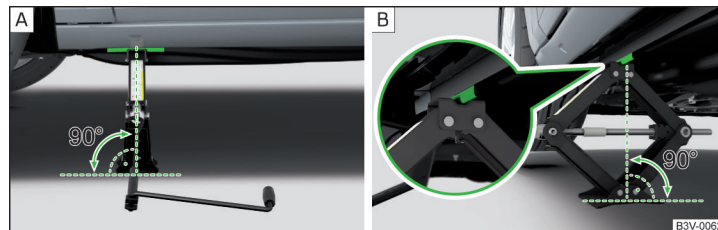

Fig. 334 Attach lifting jack
- › Support the base plate of the jack with its full area resting on level ground and ensure that the jack is located in a vertical position at the jacking point » Fig. 334 - [A].
- › Use the crank to raise the jack until its claw encloses the bar » Fig. 334 - [B].